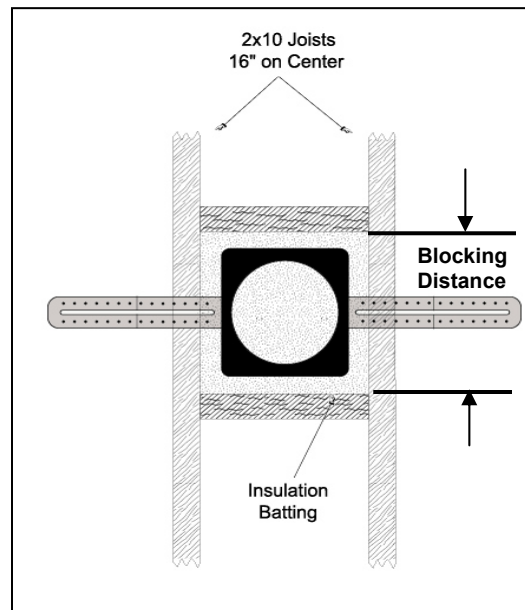

Figure 4
4. It is recommended to place insulation behind the speaker to provide some damping for the woofer driver. This will yield the best possible sound. On-Q recommends using poly-encapsulated insulation such as Johns Manville Comfort Therm®. If a defined, consistent sound is desired from both speakers in a space, blocking can be installed to yield the ideal cubic footage for each driver. Insulation would then be put in this space during speaker installation. **Refer to blocking chart and Figure 4 for details.**
5. If installing speakers in a space with an attic above it is recommended that the speakers be boxed in with 1/2 inch MDF (medium density fiber board) or plywood with insulation installed. This will provide a defined acoustic space and protect the speaker. The best possible sound will be achieved by doing this. **Refer to the blocking chart and Figure 4 for details.**